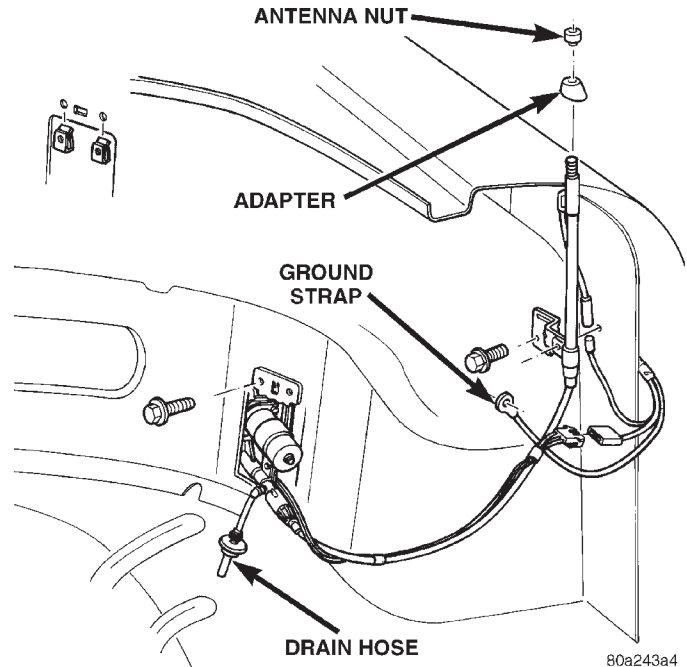

Fig. 2 Power Antenna Assembly
(1) Antenna not operating check Fuse 5 in the Junction Block. If not OK, replace fuse. If OK, test for battery at the antenna wire connector. If OK, go to Step 2. If not OK, repair as necessary.
(2) To extend antenna, using jumper wires, attach one end to a battery positive source and the other to the red and green wire terminals for up direction. Connect the second lead to a good ground or to the antenna mounting bracket (Fig. 2).
(3) To retract antenna attach the battery positive source to the red wire terminal for the down direction. Connect the second lead to a good ground or to the antenna mounting bracket.
(4) If the motor will not operate, replace the antenna assembly.
(5) If the motor runs freely and the antenna does not extend or retract, the mast or drive assembly is at fault. Remove the mast and verify that all the drive teeth are intact. If not replace mast.
(6) If the mast jumps or travel rate is slow during operation or the motor labors.